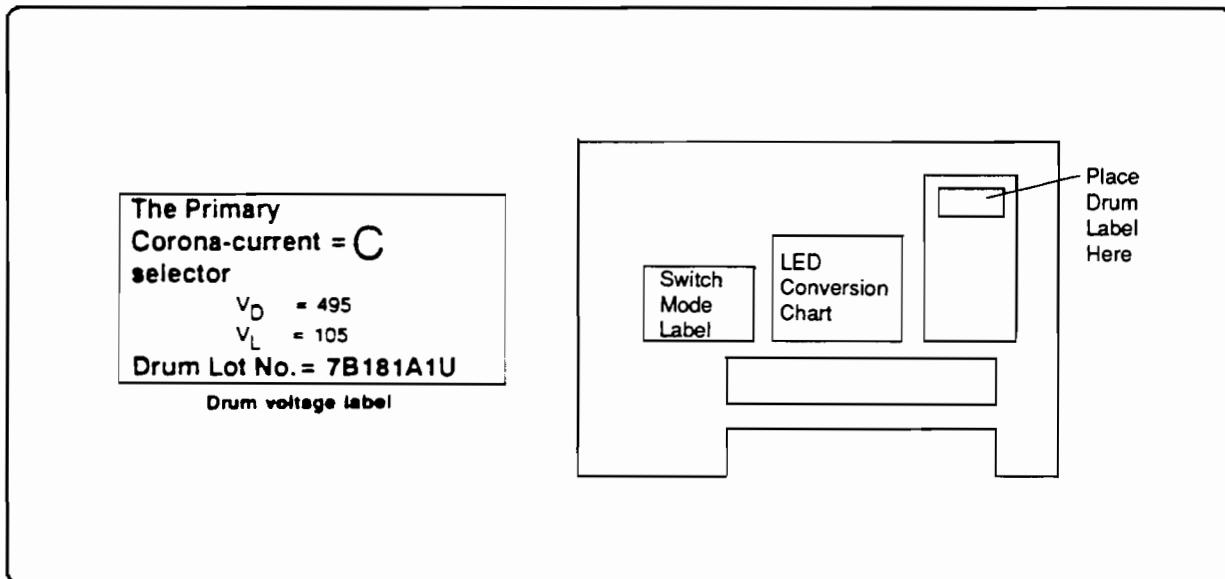

Figure 7-39. Drum Label Example
There is a label attached to the inside of each EP Drum listing the settings for that drum, and an extra label is provided in the carton with each new drum; this extra label should be attached to the inside of the right print engine cover in the space provided (see Figure 7-39).
2. Record the values for Vdark, Vlight, and the Primary Corona Jumper settings from the EP Drum label. See Figure 7-39.
4. Remove the print engine right side panel, RFI cover, and the two screws securing the Potential Measurement and Control PCA fold down panel. Verify that the drum label on the right side panel matches the label inside the EP Drum being tested (see Figure 7-39).